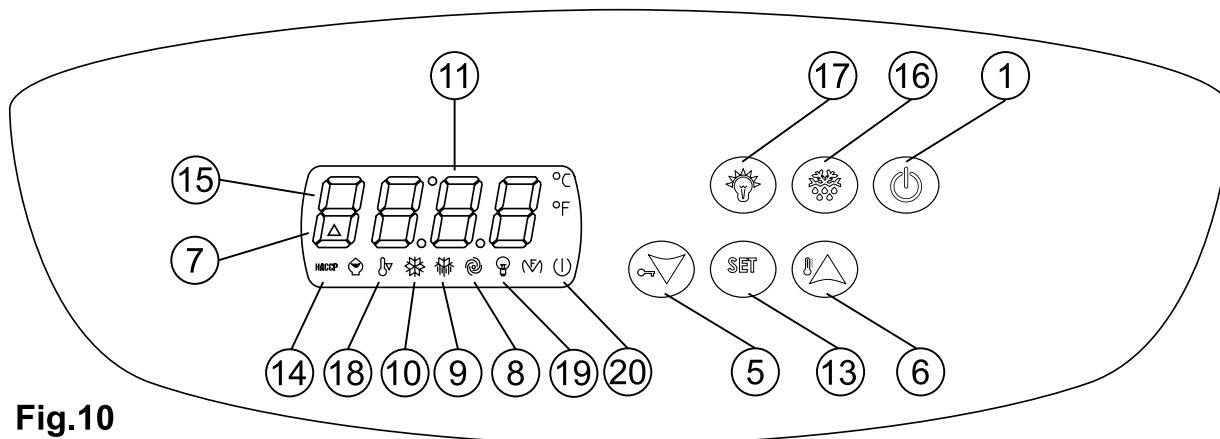

Fig.10
8.1.2. Alarms and signals (Fig.10)